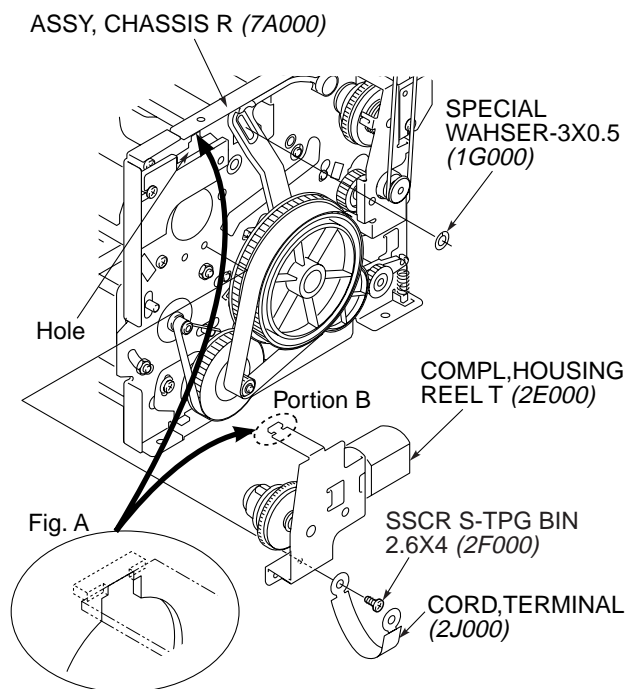

Fig. 3-3-1
(See Figs. 3-3-1 to 3-3-3)
- 2) Remove the "SCR S-TPG BIN 2.6X4 (2F000)" and remove the "CORD, TERMINAL (2J000)". (Refer to Fig. 3-3-1.)
- 3) Remove the "COMPL, HOUSING REEL T (2E000)". (Refer to Fig. 3-3-1.)
- 4) Remove the "SPECIAL WAHSE-3X0.5 (1G000)". (Refer to Fig. 3-3-1.)
1. Insert portion B on the "COMPL, HOUSING REEL T (2E000)" into hole on the "ASSY, CHASSIS R (7A000)" as shown in Fig. A of Fig. 3-3-1.